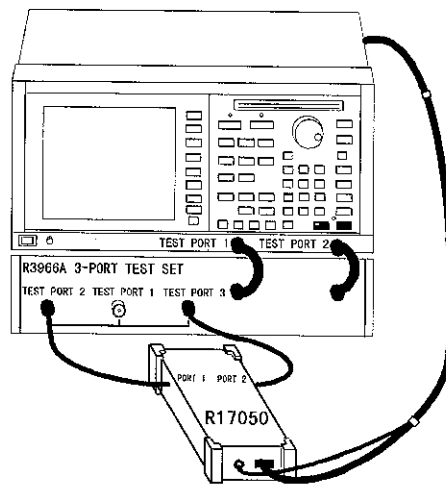

Figure 2-9 RF Port Connection
12. Connect the RF ports of the instrument to the test ports of the network analyzer (see Figure 2-9), using the cable that is actually used to measure the DUT.